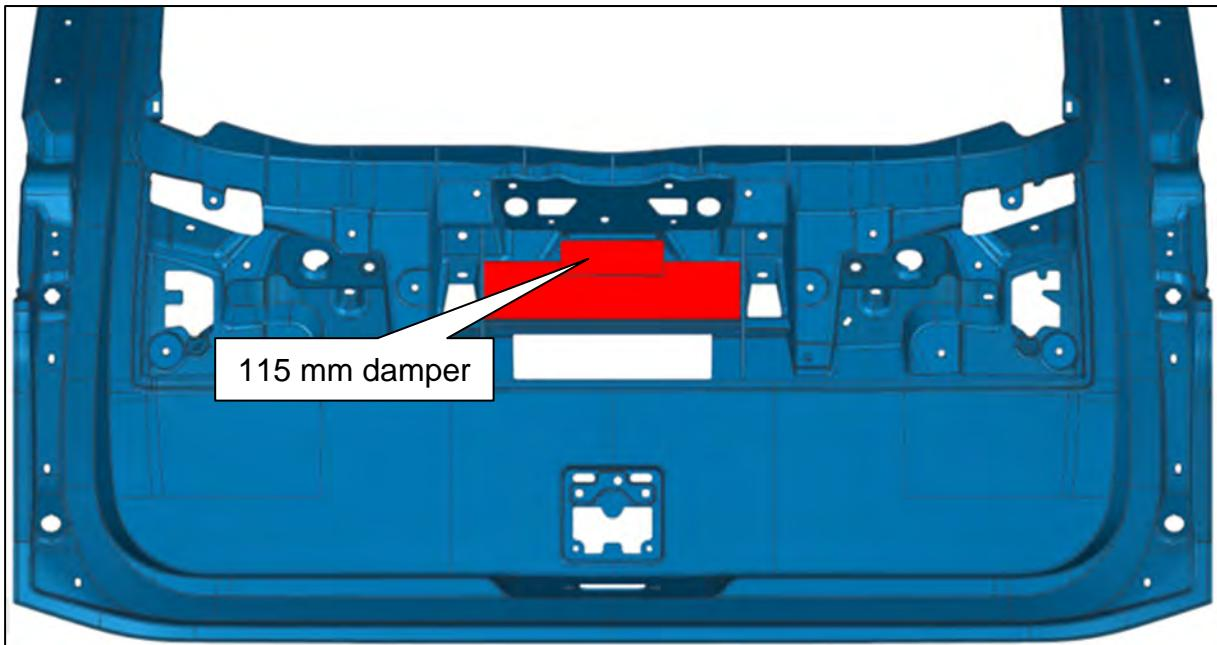

Figure 34
45. Apply the 115 mm Damper where shown in Figure 34.